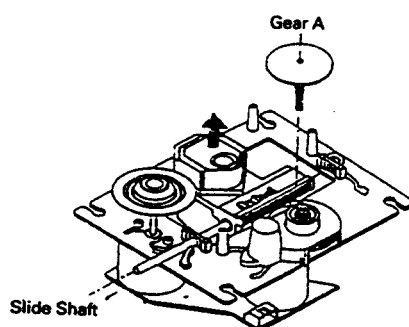

Figure 7
- 5. Remove the Gear A (See Figure 7).